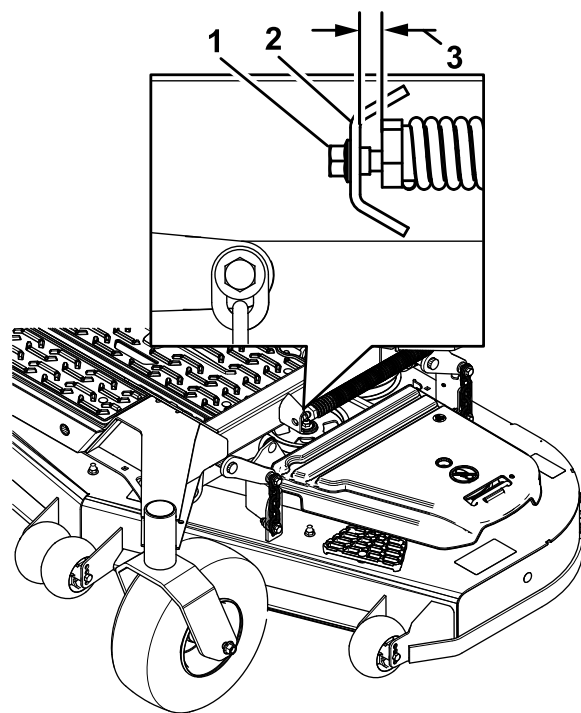

Figure 83
10. Slowly loosen the adjusting screw on the lift-assist spring until you can remove the screw (Figure 83).